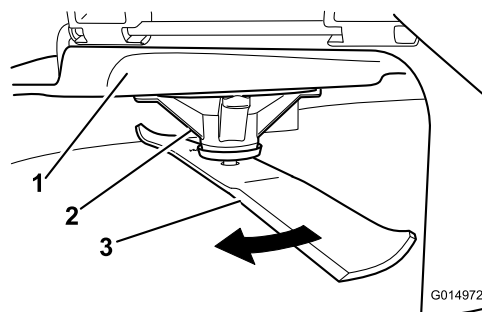

Figure 46
2. While wearing thickly padded gloves, or other adequate hand protection, slowly rotate the blade to be measure into a position that allows effective measurement of the distance between the cutting edge and the level surface the machine is on (Figure 46).